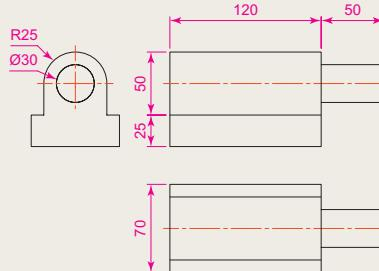

Fig. 7.25 Exercises 2 and 3
- Fig. 7.25 is a first angle orthographic projection of the other part of the fitment. Construct a three-view third angle orthographic projection of the part.
- Construct an isometric drawing of the part shown in Fig. 7.25.